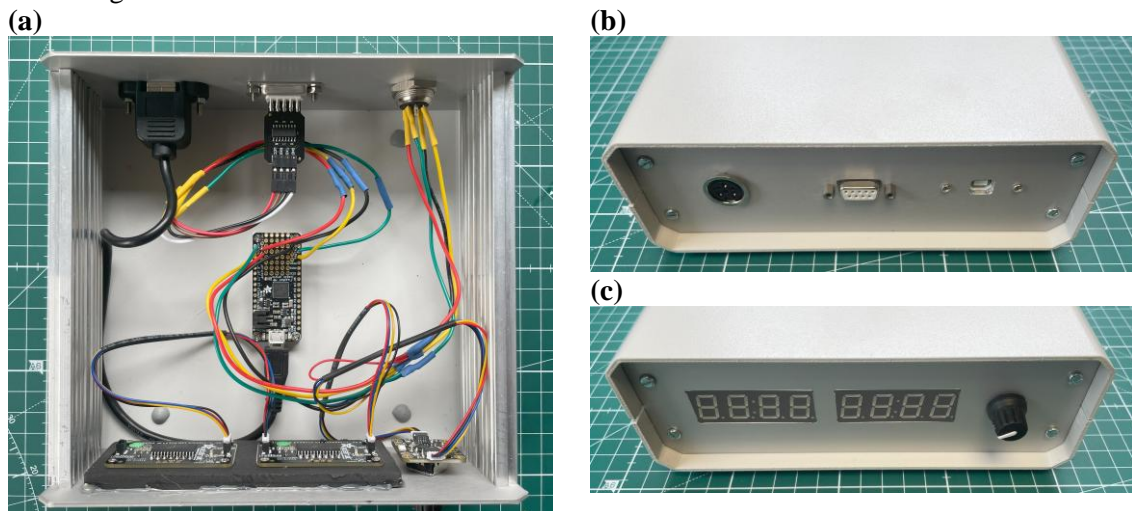

Fig. S5. Photos of the complete controller box including (a) a top view of the open box as well as (b) back and (c) front views of the closed controller box.
- * Close the controller box with the top lid and secure with screws. Photos of the complete controller box are shown in Fig. S5.